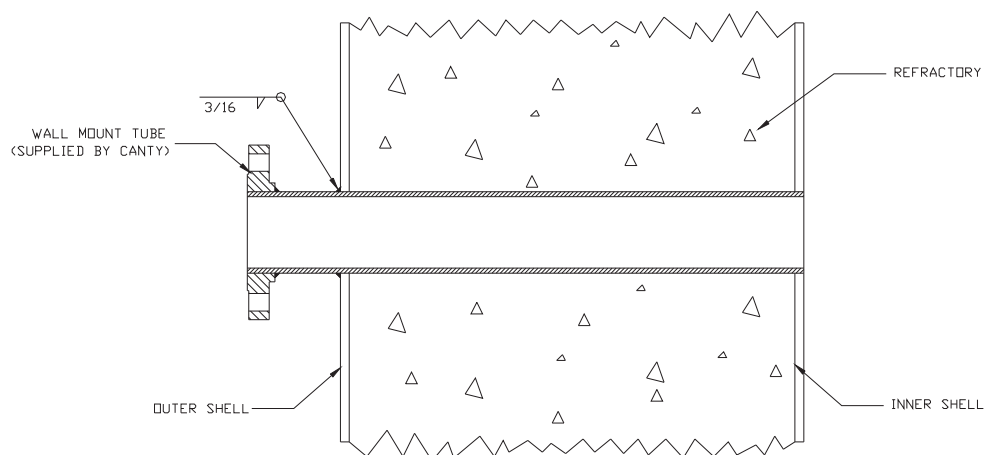
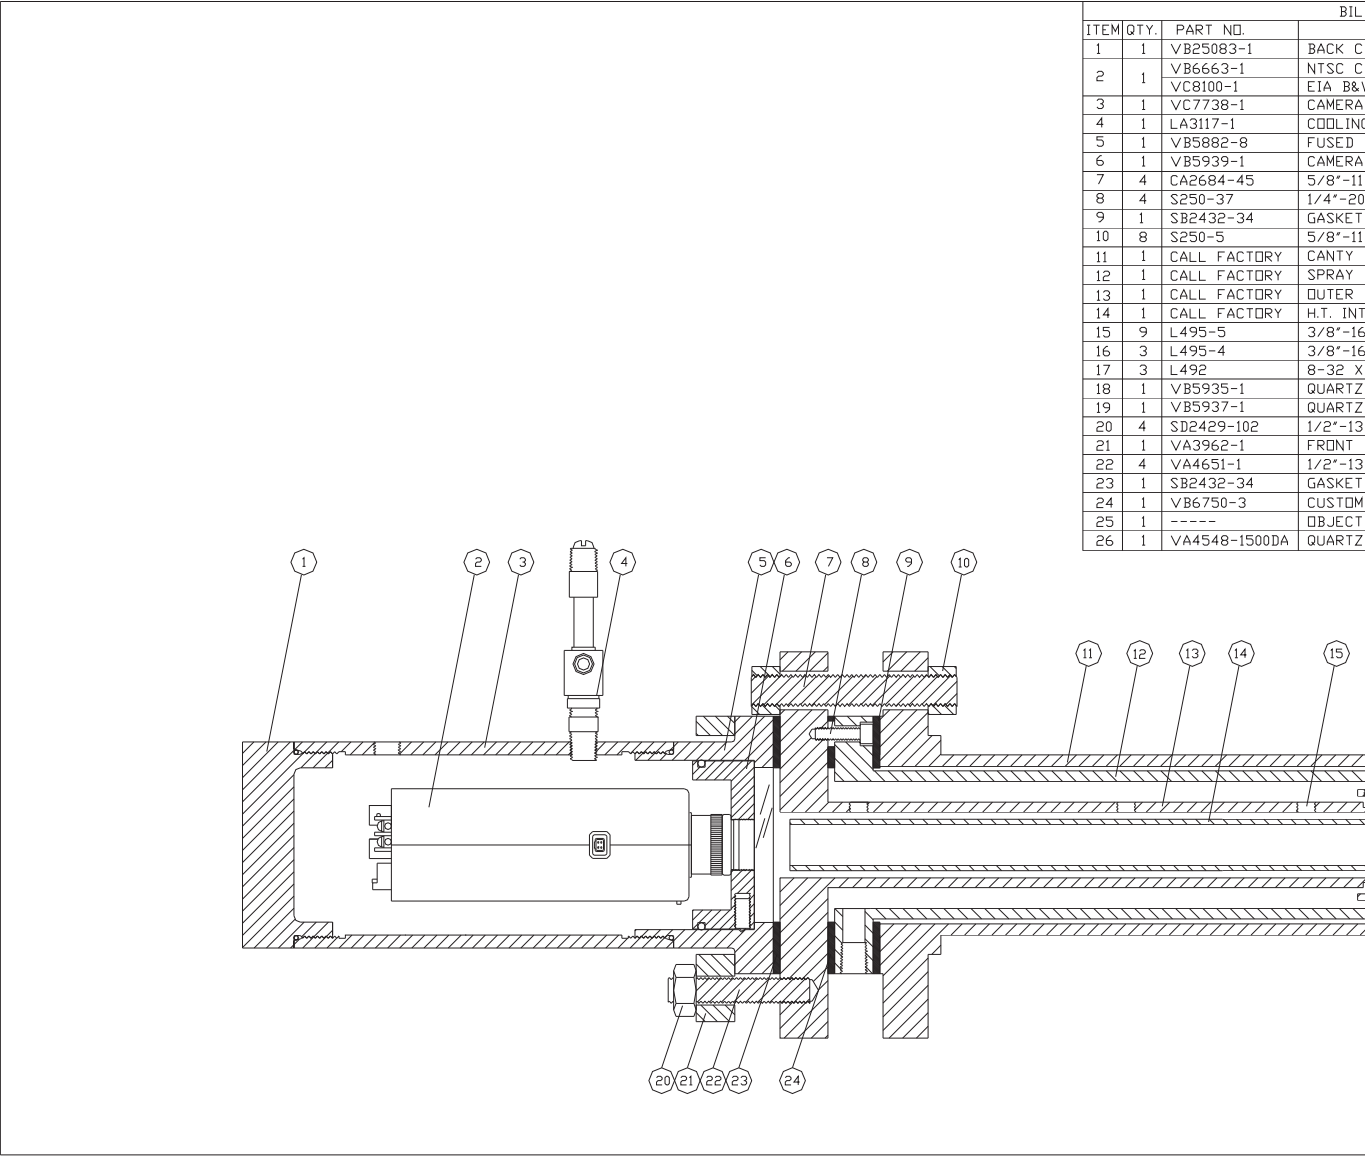

Fig. 1 Wall Mount Tube Welding Detail - Perpendicular Mount
Fig. 7 - Bill of Materials - Typical HT Camera System (D9169)
If your camera system includes a Canty wall mount tube, the system is factory assembled and aligned. A typical camera assembly is shown in Figure 7. Typical welding installations are shown in figs 1 and 2. The unit does not have to be disassembled for welding if it is properly protected. The camera system must be protected from hot weld spattering on any of its parts. All warranties will be void if any spatter is found on any of the components.
- The wall mount tube must be inserted to the correct depth into the door or refractory wall. See figures 1 and 2 below for optimum installation tips. *The wall mount tube must be welded at a depth so as not to protrude into the flame, and should be mounted flush with the inside wall of tank, pipe or vessel . If the wall mount tube is too short, or is not welded in deep enough, you will see "tunneling" on the video picture.* (Be sure the spray tube does not protrude into the flame). It may be up to 2" shorter without any loss in picture quality.
- Place a gasket over the spray tube as shown in Fig. 7. Place another gasket over the camera insertion as shown on the drawing. Insert the camera insertion tube into the spray tube. This assembly may then be placed into the nozzle. A side view would show the following stack: the vessel mount, gasket, spray tube, gasket, camera front flange.
Reference Figure 7 for details.